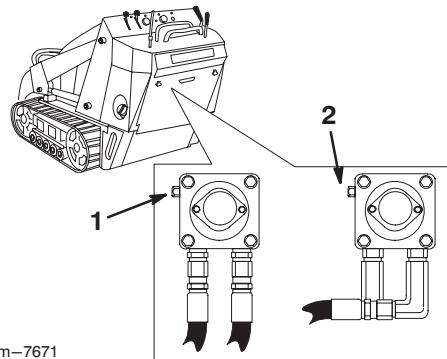

Figure 12
- Using a wrench, turn the tow valves on the hydraulic pumps twice counter-clockwise (Fig. 12).